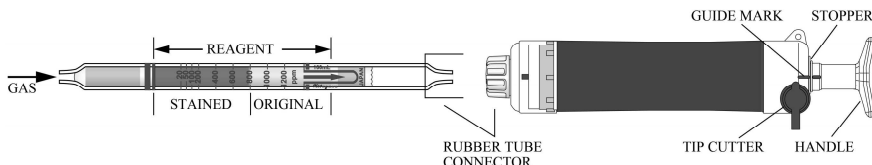

Fig.1
- ② Insert the detector tube into aspirating pump securely as shown in Fig.1. (Arrow mark shall point to the pump.)
- ③ Align the guide marks on the shaft and stopper of the aspirating pump.
- ④ Pull the pump handle at full stroke locked position and wait for 3 minutes or until the completion of sampling is confirmed with the flow indicator of the pump (See descriptions about the flow indicator in the instruction manual of the pump).
- ⑤ On completion of sampling, read the scale at the maximum point of the stained layer.